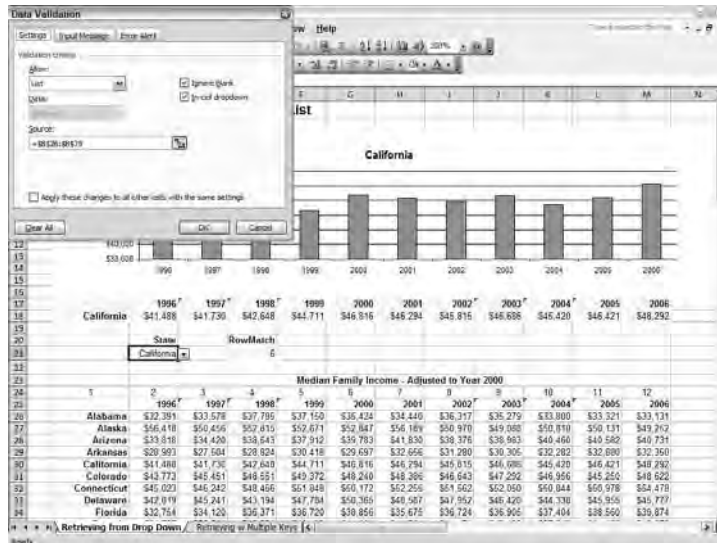

Figure 18.3: The Data Validation dialog box makes it easy to create drop-down lists for data entry.
2. Choose the Data ⇄ Validation command to display the Data Validation dialog box shown in Figure 18.3. Select the Settings tab.